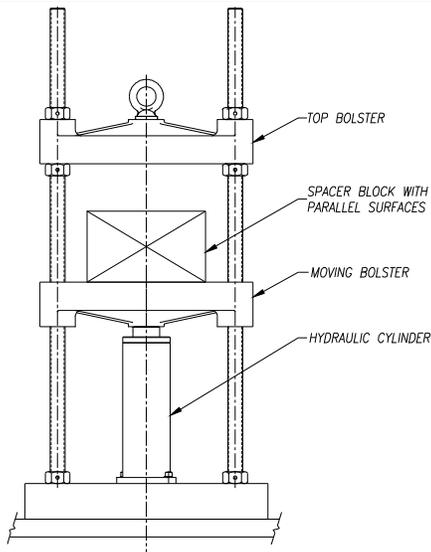
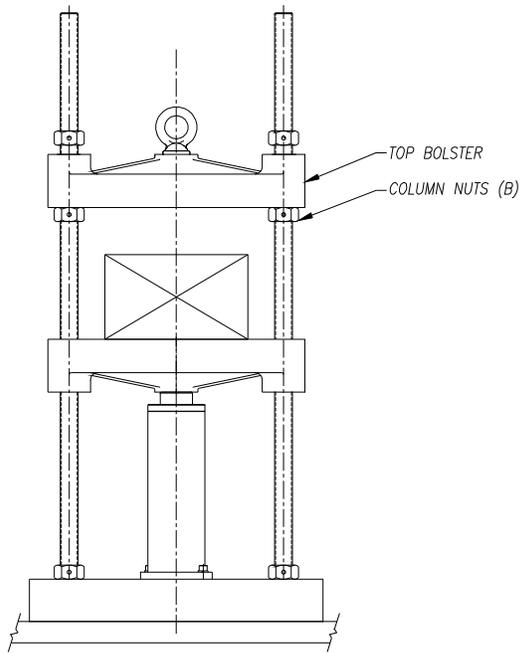

Figure 3-1
Figure 3-3
- Insert a spacer block with parallel surfaces between the moving bolster and top bolster (spacer must be tall enough to build force on the spacer and small enough to remove after daylight has been set), jog the hydraulic unit to build force to the maximum capacity of the press. (FIG 3-1)
3. Release hydraulic force and remove the spacer, allowing the top bolster to rest on the lower column nuts (B) (FIG 3-3).
1. Insert a spacer block with parallel surfaces between the moving bolster and top bolster (spacer must be tall enough to build force on spacer) (FIG 3-1), jog the hydraulic unit to build force to the maximum capacity of the press.
2. With the press at maximum applied force, loosen the column nuts (B) located directly below the top bolster. Move these column nuts (B) to the position required creating the desired daylight. On AutoFour presses, a brass tipped set screw must be loosened on each nut before nuts are loosened.
3. Release hydraulic force and remove the spacer allowing the top bolster to rest on the lower column nuts (B) (FIG 3-3).
4. Tighten the upper column nuts (A) finger tight against the top surface of the top bolster.